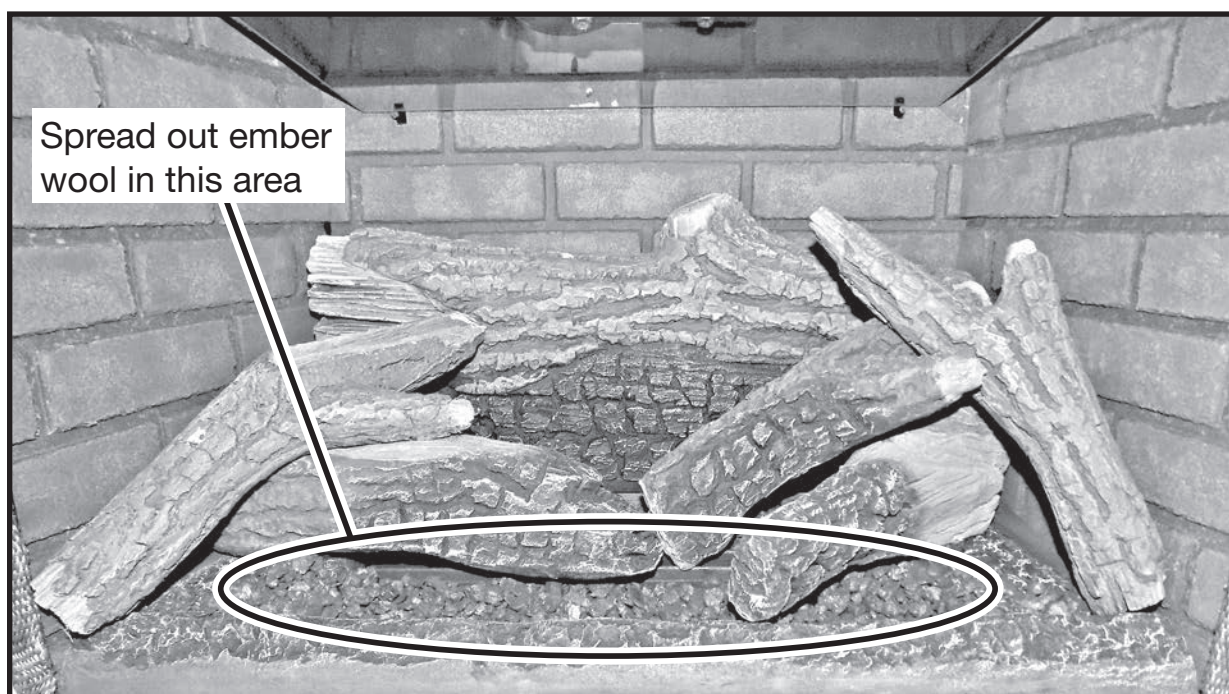

Figure 81: 6th log placement and ember wool distribution.
14. Place the 6th log (Figure 60) so that the top end rests on top of the 2nd log and the bottom end rests against the left wall panel and left base piece (Figure 81). The bottom end should be close to the front edge of the left base piece but not so close that it will be disturbed when re-installing the fireplace door.
16. Spread contents of bag of Ember Wool (Figure 62) in front of the logs to finish (Figure 81) .